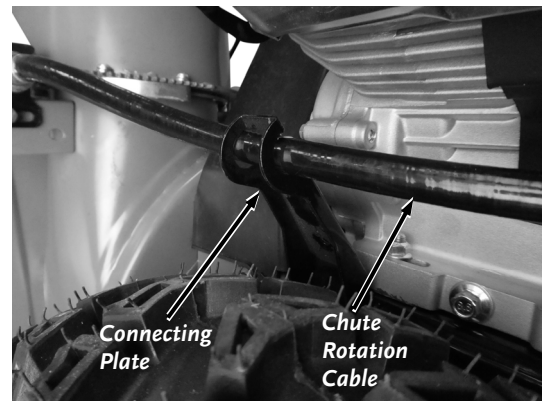

Figure 16
15. lace the Rotation Bracket Cable into the Connecting Plate (**Figure 16**).